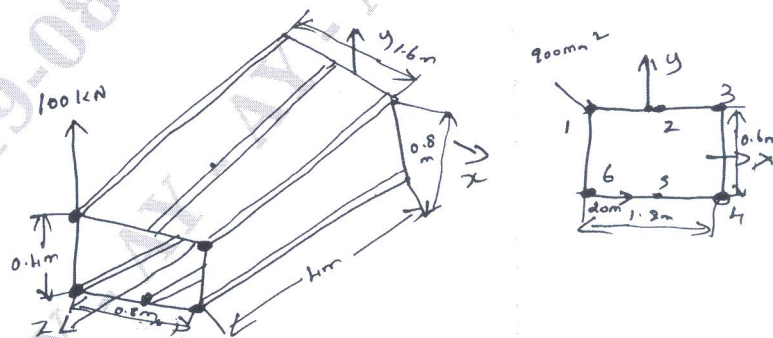

Fig.Q8
- 8 The cantilever beam shown in Fig.Q8 is uniformly tapered along its length in both x and y directions and carries a load of 100kN at its free end. Calculate the forces in the booms and shear flow distribution in the walls at a section 2m from the built in end if the booms resist all the direct stresses while the walls are effective only in shear. Each corner both has a cross sectional area of 900mm^2 while both central booms have cross sectional areas of $1,200\text{mm}^2$.